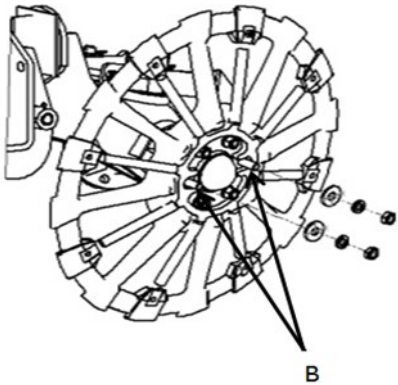

Figure 7-10: Adding or Removing Center-Mount Filler Wheels
1. Remove the lock nut, lock washer, and flat washer from bolts (B) as shown in Figure 7-10.